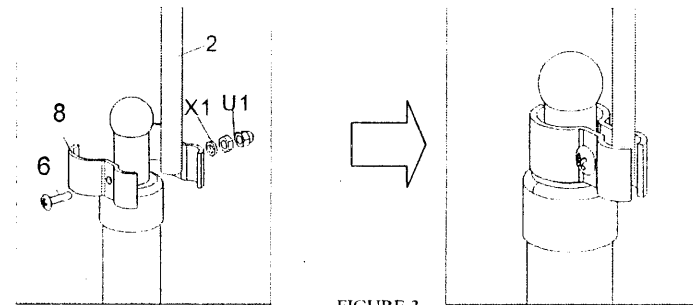

FIGURE 3
FOR A Model: Connect tube #2 to top cupusing screw (6), nylon washers (X1) and nut (U1). (See figure 3)